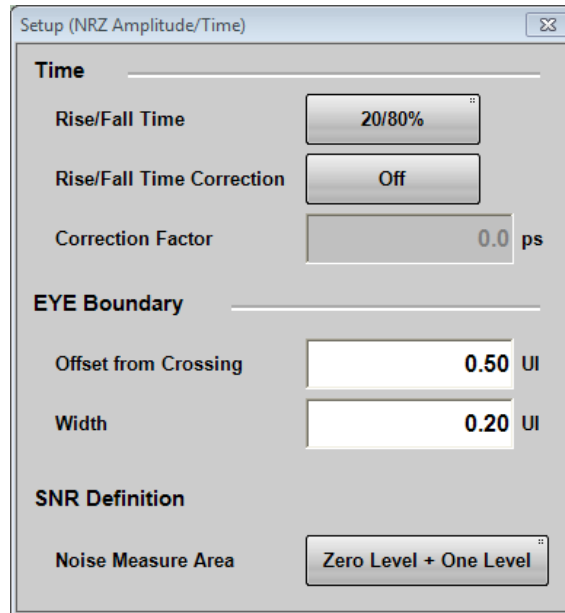

Figure 6.9.1.1-1 Setup (NRZ Amplitude/Time) Dialog Box
1. Click **NRZ** at Measure Setup on Figure 6.9.1-1.